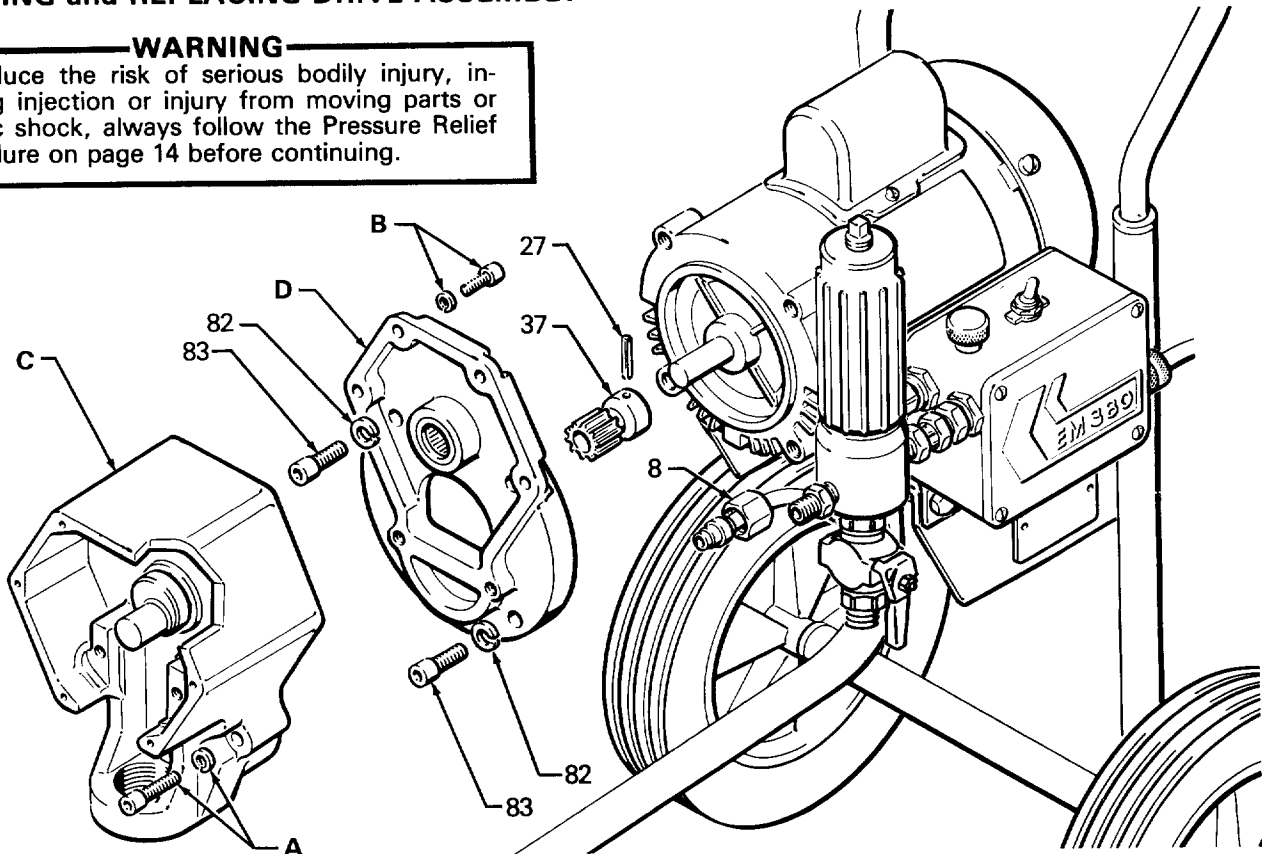

Fig 19
Remove screws and lockwashers (A&B) and remove drive housing (C). Remove screws and lockwashers (82 & 83) and remove motor housing (D). See Fig 19.